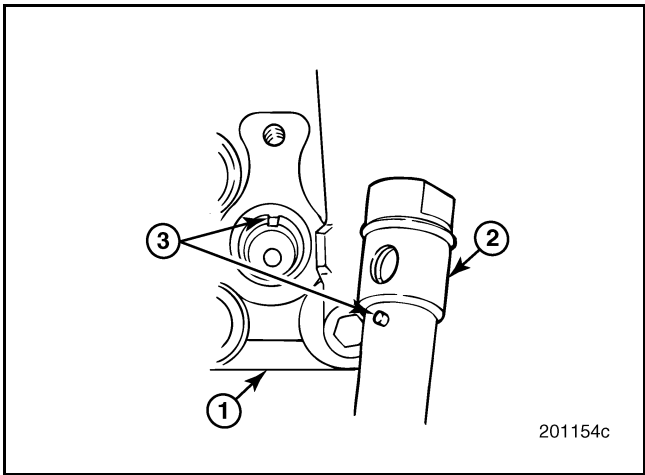

Figure 373 — Nozzle Holder Alignment
4. Insert the nozzle holder in the nozzle holder sleeve. Be sure to align the locator pin in the nozzle holder with the notch in the holder sleeve to ensure inlet tube alignment. Refer to Figure 373.